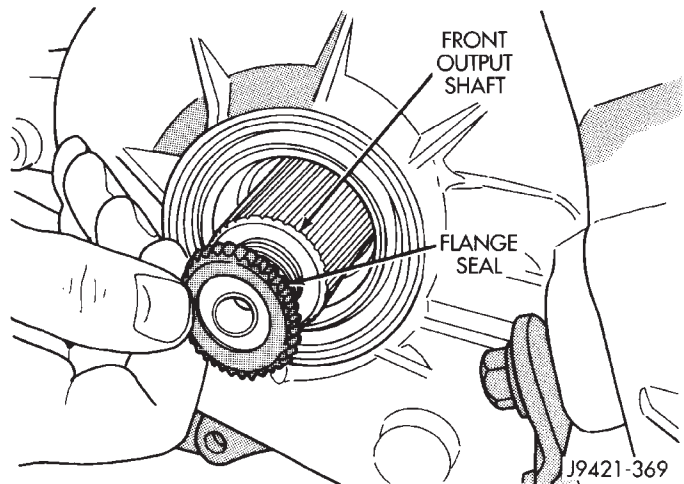

Fig. 101 Installing Flange Seal On Front Shaft
(1) Install companion flange seal on front shaft (Fig. 101).